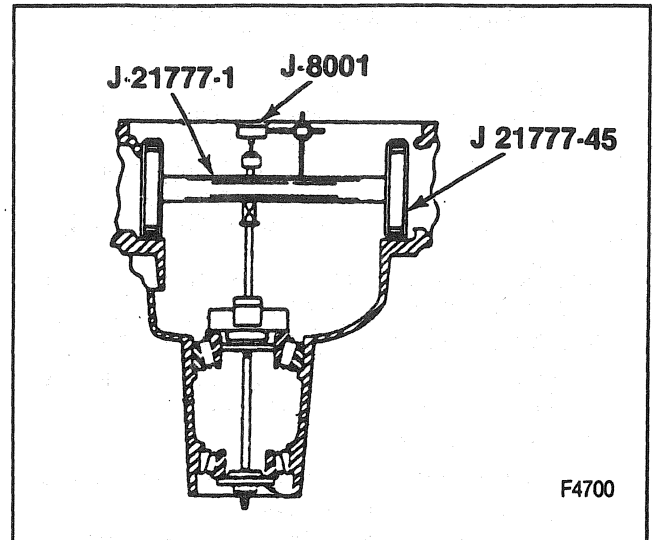

Figure 13—Pinion Depth Tools
8. Assemble J 21777-45, J 21777-1, and J 8001 to the differential bearing bore as shown in (Figure 13).